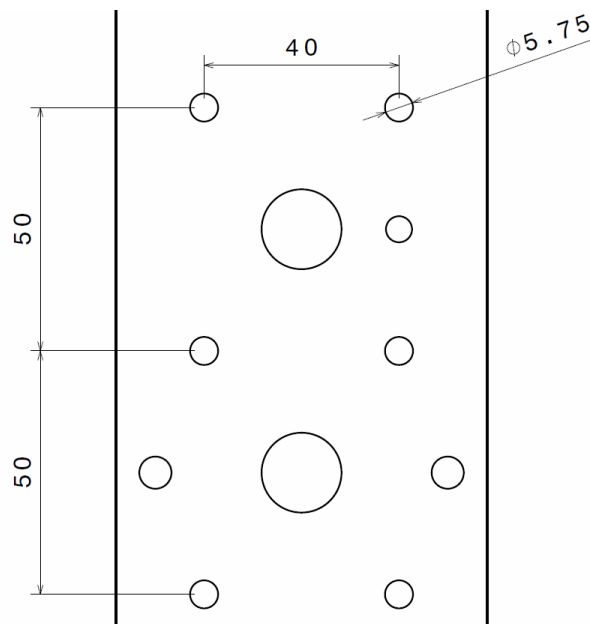

Fig. 4.27: Hole features on the support plate to mount the electrical components
- ❑ Rotate the M5 serrated flange nut (#YTEX) in to the M5 screw head that extends past the casing (see Fig. 4.27).